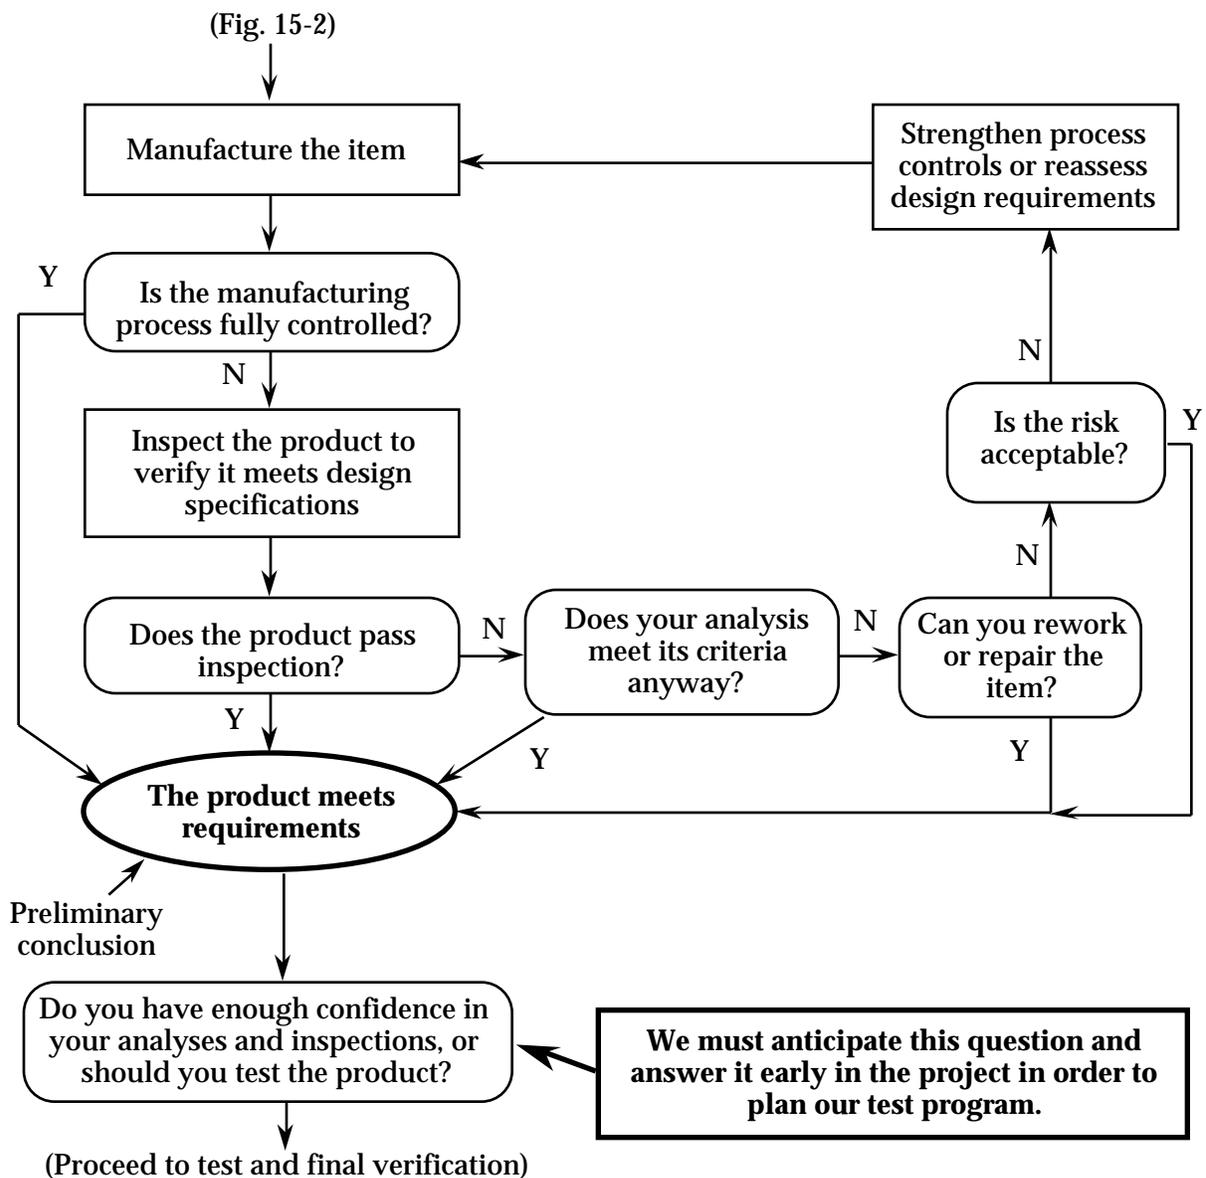

Fig. 15-3. Verification Logic Flow during Manufacturing. (Adapted from SSAM Fig. 11.4)
An inspection is much the same as an analysis or a test, complete with its own pass/fail criteria. Just as we don't discard a design based solely on failure to meet the criteria, we don't necessarily scrap hardware that fails inspection. Again, failure to meet the criteria simply means more work is required. We write a discrepancy report to document the problem and then get the right people to assess it. Sometimes the analysis will still satisfy its own criteria, even though the product did not satisfy certain features within specified tolerances. Other times, as a result of the discrepancy, we can no longer satisfy the design criteria. If so, we still might accept the product, depending on our assessment of risk. The two main outcomes of the discrepancy report and the subsequent investigation are (1) what we will do with the discrepant item and (2) what we will do to ensure the problem will not occur for subsequent builds. The second outcome requires that we first find the cause of the problem. Figure 15-3 shows the flow of verification logic during manufacturing.